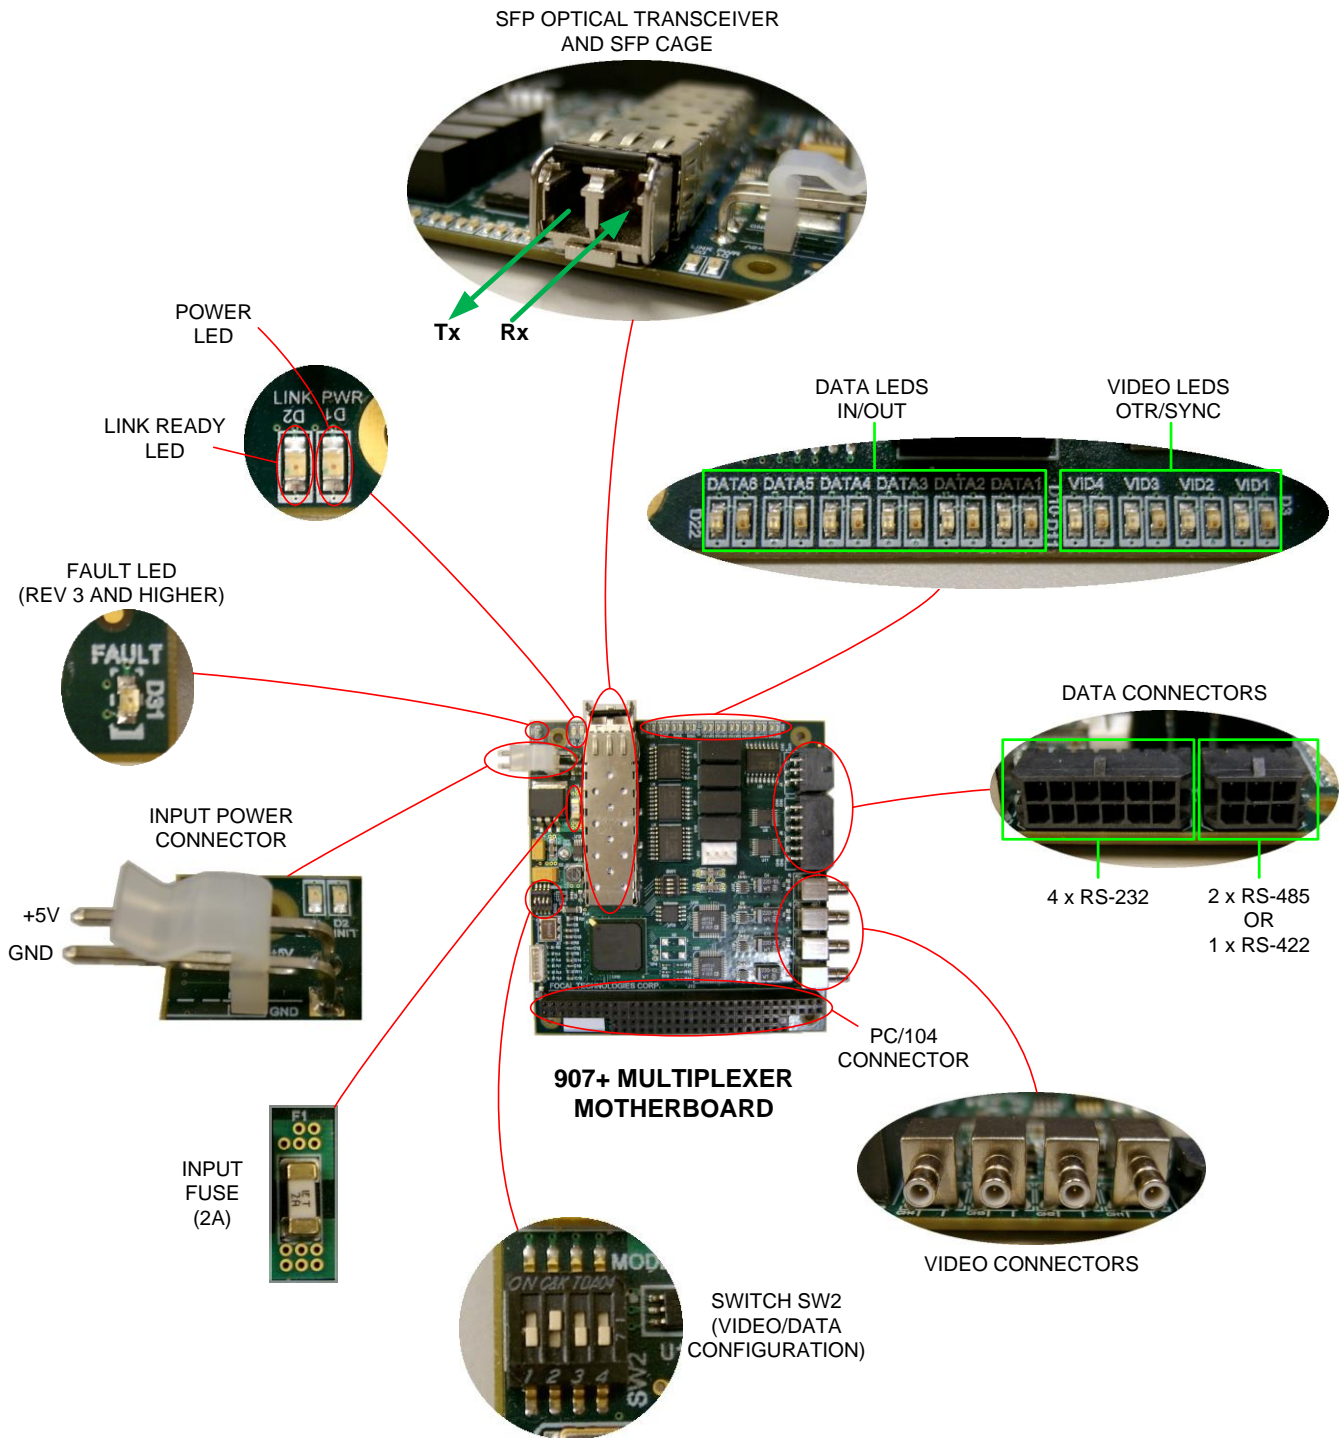

Figure 3: Model 907+ Part Locations
Please review the following guidelines and recommendations prior to handling or installing a Model 907+ system. Refer to Figure 3 below for location of connectors and critical items on the cards.
As shown in Figure 3, SFP optical transceivers typically have a transmit and receive optical bushing (LC type), which requires dual fiber operation. The transmit side of the remote transceiver should be connected to the receiver side of the console transceiver and vice versa, i.e. the optical connections must be crossed over. When using bidirectional or "bidi" transceivers, which have a built-in wavelength division multiplexer (WDM) to combine the uplink and downlink wavelengths on a single fiber, only a single connection is required. In some cases an external WDM is used to combine the uplink and downlink on a single fiber, and the external fiber system must be connected to the "common" port of this configuration. Typically the optical connections for systems with external couplers are described by the corresponding 8000 series optical configuration drawing for the system.
Figure 3 shows the location of the power connector and fuse on the 907+ motherboard. Expansion cards stacked on the motherboard typically draw power/current through the PC/104 connector. Power access points and current draw for stacks are indicated in the corresponding 8000 series installation drawings.
DIP switches are set to either on (1) or off (0). Circuit 1 is leftmost when reading the text on the switch. The DIP switches shown in Figure 3 are for reference only. The DIP switches settings are described by the configuration drawings 907-2035-00 (907+R) and 907-2036-00 (907+C). Switch bank SW1 is for factory settings only and should not be changed without consulting Focal.